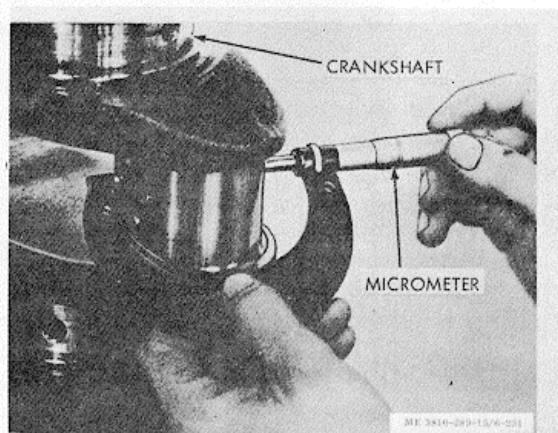

Figure 3-223. Crank pin journal measurement.
(3) Check crankshaft for out-of-round condition. Crankshafts should be reground if main bearing or crankpin journals are worn out-of-round more than 0.002 inch. Refer to figure 3-223.